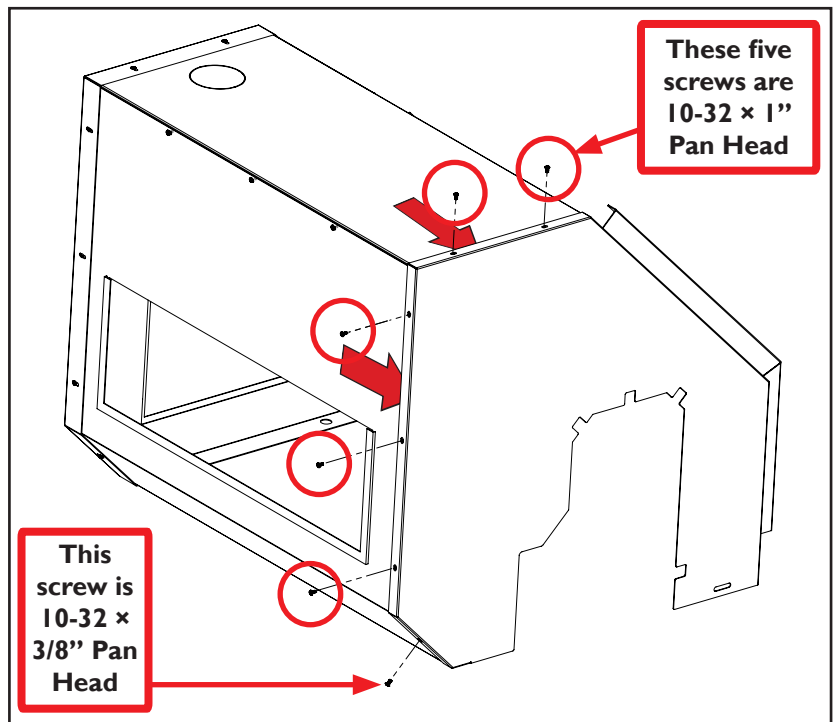

Figure 7
5. Slide the Left Side Panel over the edge of the assembly; secure using five 10-32 $\times$ 1" Pan Head Screws and one 10-32 $\times$ 3/8" Pan Head Screw as shown in **Figure 7**.